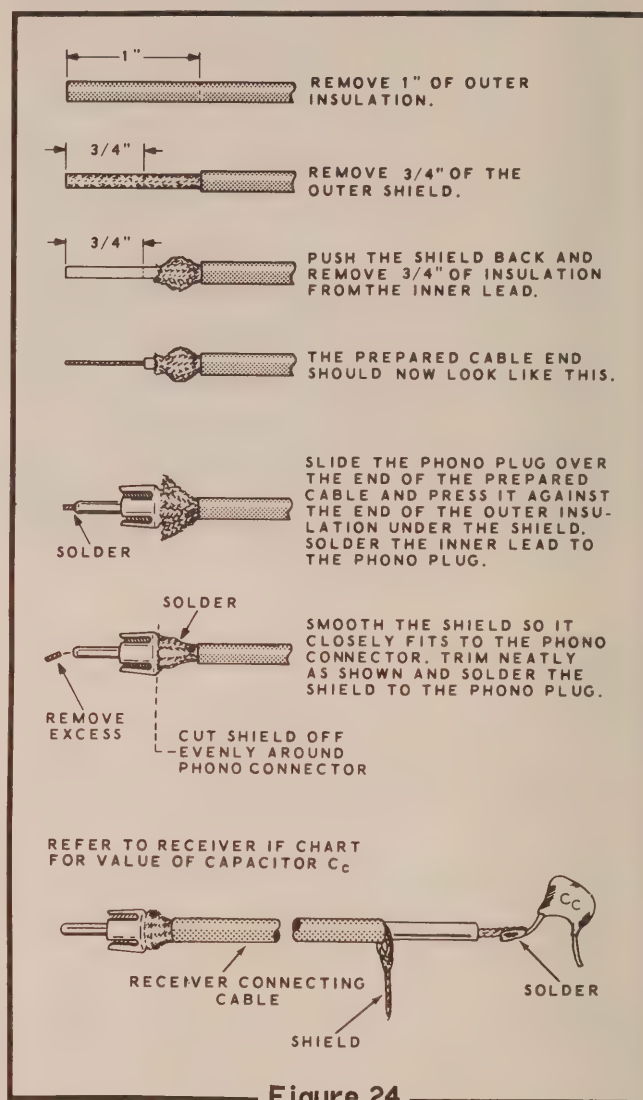

Figure 24
- ( ) Refer to Figure 24 and prepare two coaxial cables, one with capacitor  $C_c$  attached to reach from the connecting point to the unused connector in your receiver, and the other to connect between the unused connector and the IF INPUT socket of the Scanalyzer.
- ( ) Prepare a coaxial cable as shown in Figure 24 with capacitor  $C_c$  at one end and a phono plug at the other end.